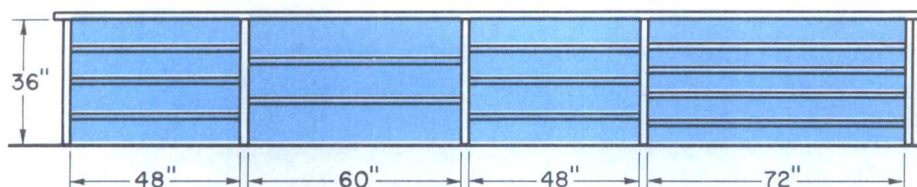

Fig. 1-7
4. Figure 1-7 shows the front view of a wooden counter that is to be built for a clothing store. All pieces of the counter except the top and back are to be made of the same thickness and width of lumber. How many total feet ( $1' = 12''$ ) of lumber should be ordered for this job? Do not include the top or back. Allow 6 feet for waste.